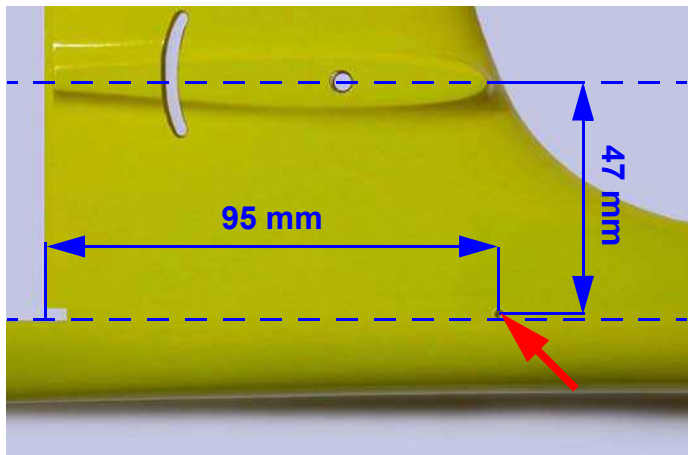

Fig.28: .Mark the position.
- Using a pencil, mark the position following the dimensions shown in figure 28;